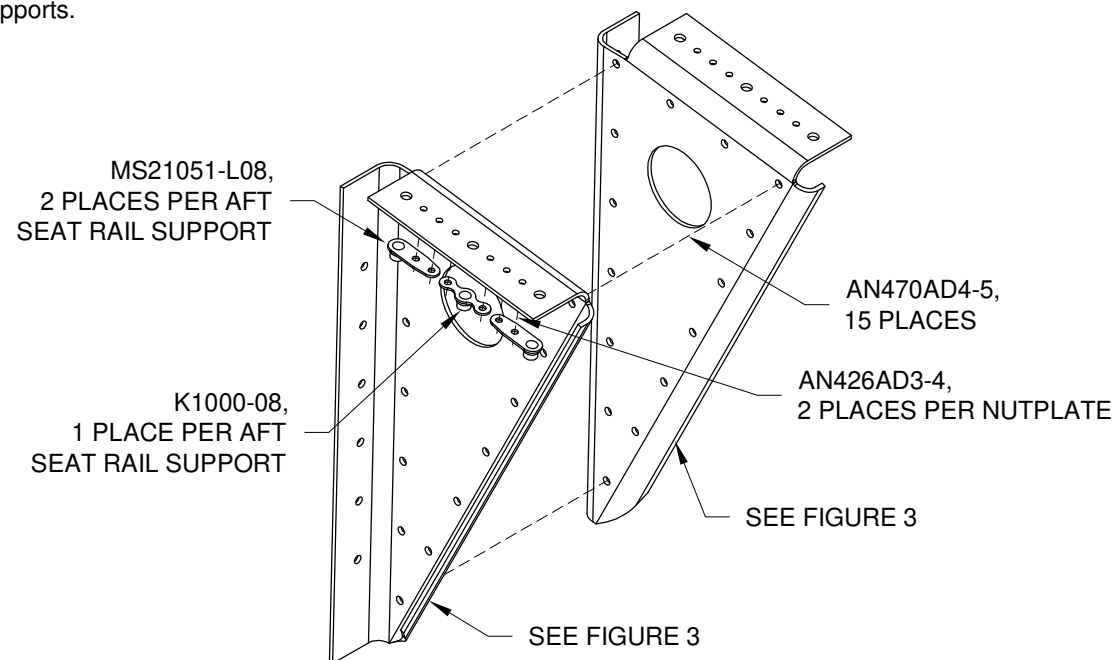

FIGURE 1: TYPICAL AFT SEAT RAIL SUPPORT SUBASSEMBLY
Step 1: Cleco the F-1004S-L and -R and the F-1004R-L and -R Aft Seat Rail Supports together as shown in Figure 1 and called out in Figure 2 to create four Aft Seat Rail Support Subassemblies. Final-Drill #30 all the holes common between both parts in all four subassemblies. Final-Drill #40 the nutplate attach holes and #19 all the screw holes in the upper flanges of all the aft seat rail supports.